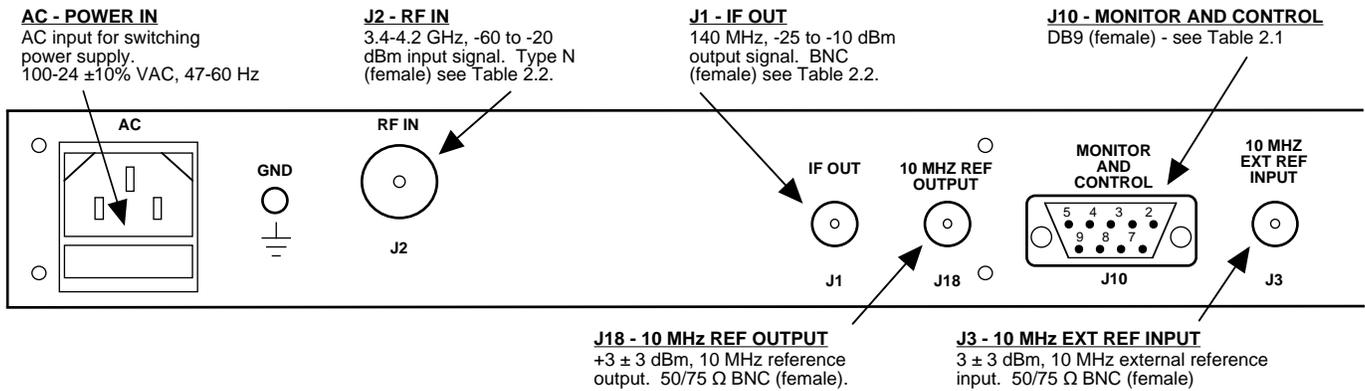

FIGURE 2.2 2016-38 Rear Panel I/Os
Figure 2.2 shows the input and output connectors on the rear panel.
1. Connect a -60 dBm to -20 dBm signal to RF IN, J2 (Figure 2.2)